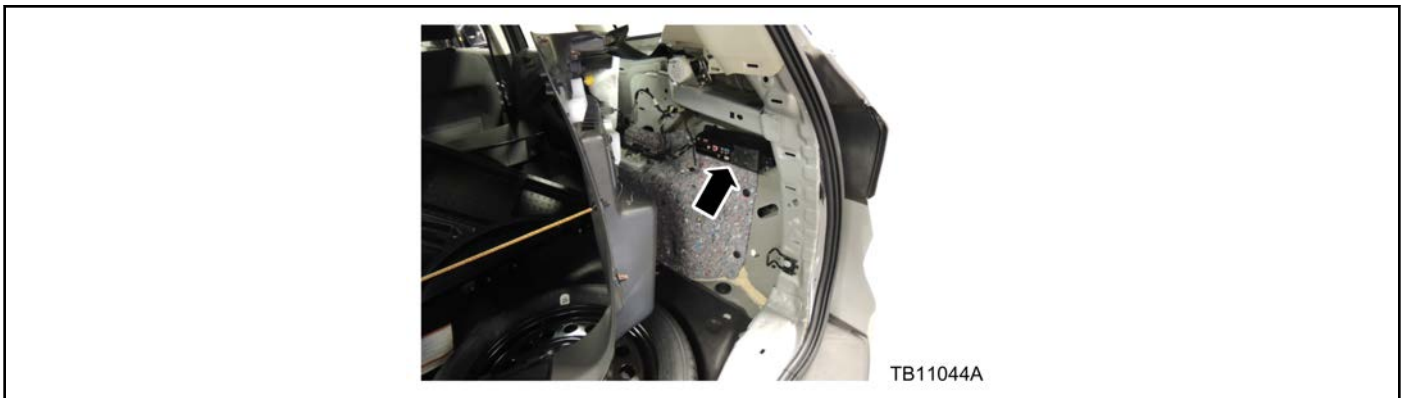

Figure 1 - Article 17-0032
3. Position the right side loadspace trim panel aside for access to the RJB. Refer to WSM, Section 501-05. (Figure 1)